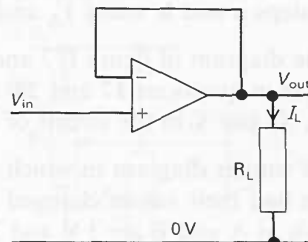

Figure I75
32(P) Consider the circuit shown in figure I75.